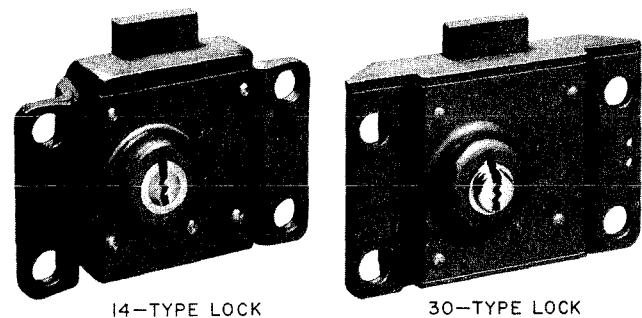

Fig. 10—Cash Compartment Locks
3.06 There are two current models of locks available for cash compartments; 14-type and 30-type (Fig. 10). Each of these locks is a lever tumbler type using a corrugated key.